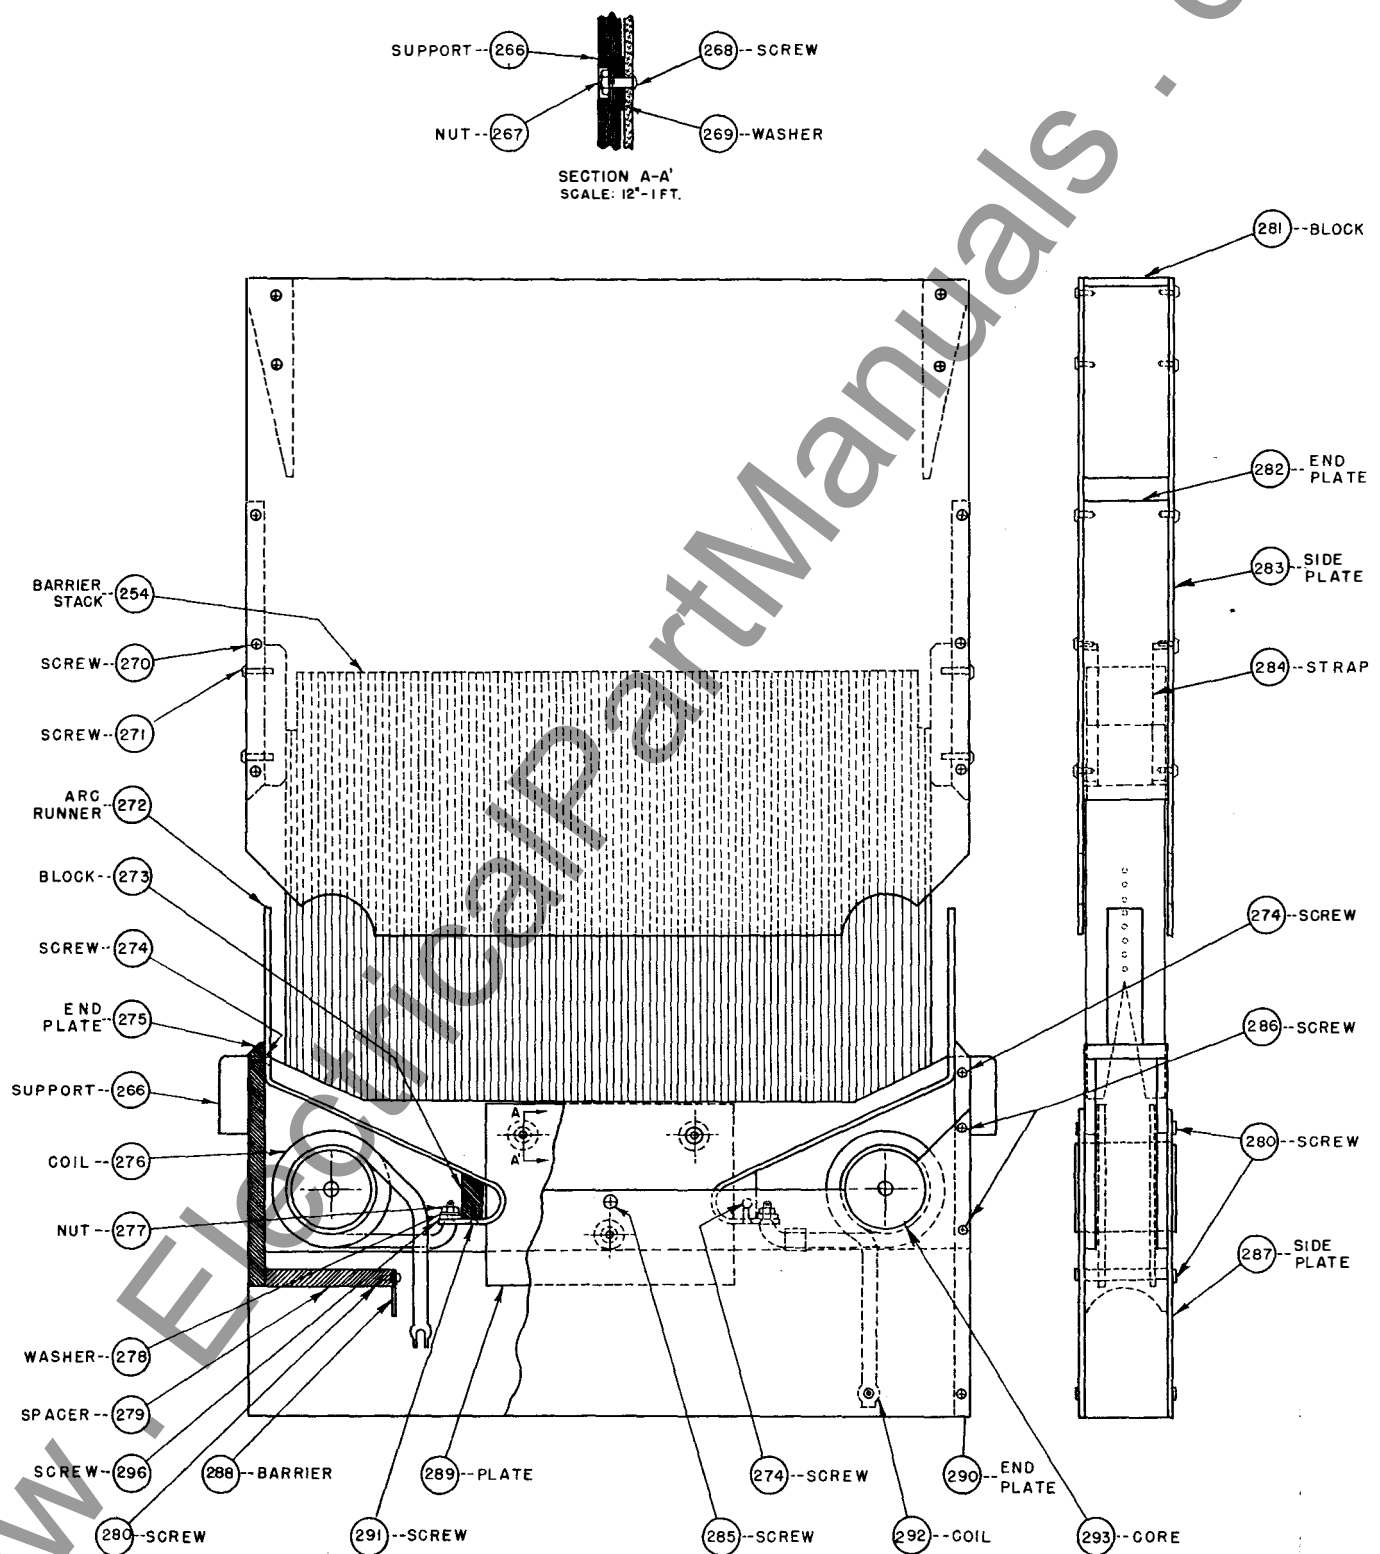

FIG. 8
ARC-CHUTE ASSEMBLY (Fig. 8)
BARRIER STACK (Fig. 8)
FRONT AND REAR ARC RUNNERS AND BLOWOUT COILS (Fig. 8)
FLASH PLATES (Fig. 8)
1. Prepare breaker for servicing by removing phase barriers, arc chute top section, barrier stack, blowout side plates and arc chute lower section. All parts lift off easily without removing hardware, except for arc chute lower section which requires the blowout coil terminals to be loosened. Refer to Fig. 8.